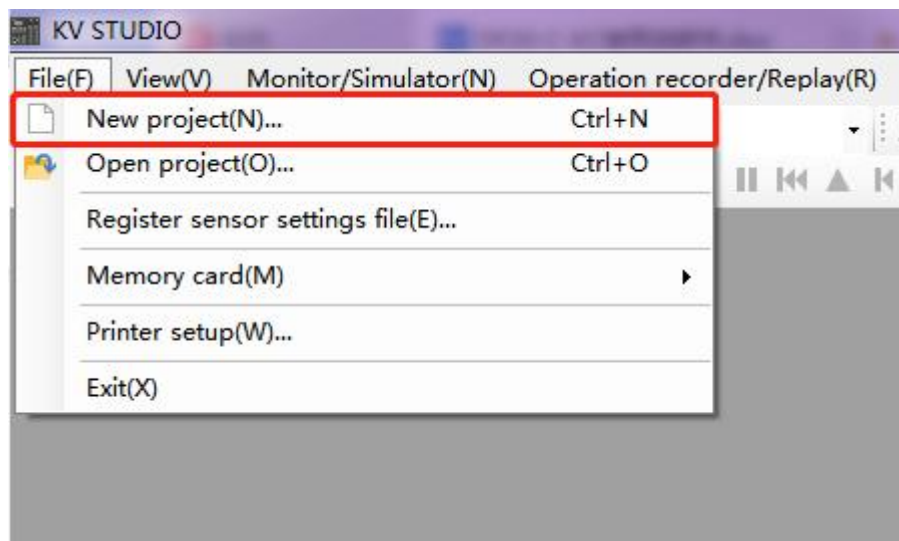

Figure 4-3
- Open KV STUDIO software, click "File" in the menu bar as shown in Figure 4-3, and click "New project":